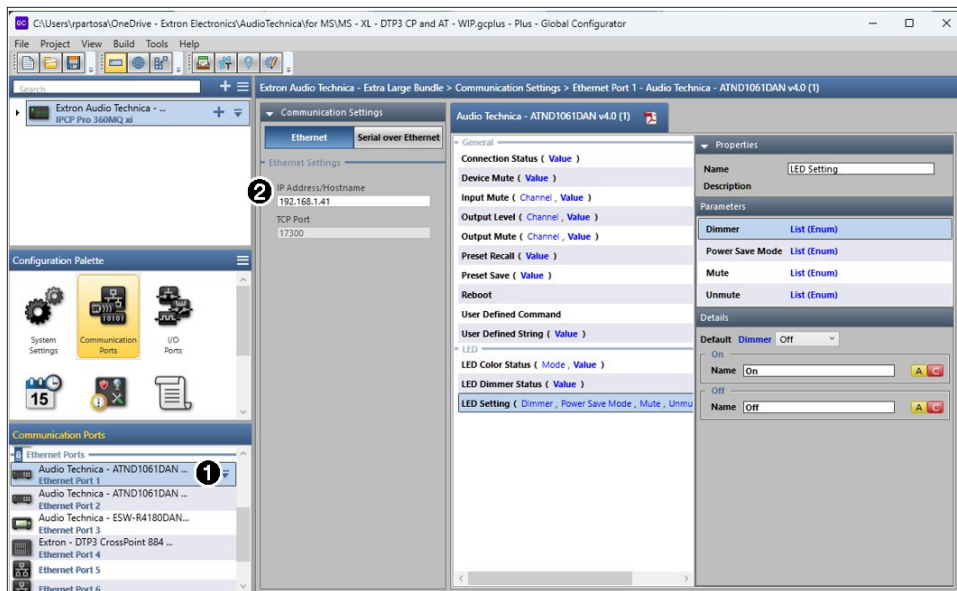
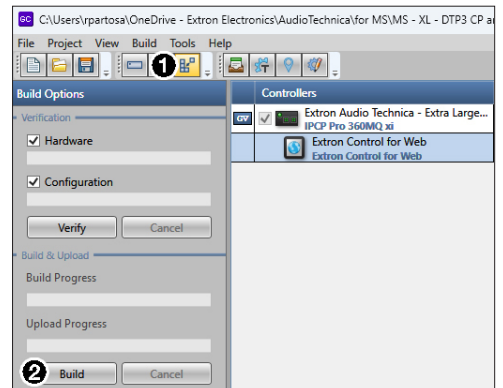
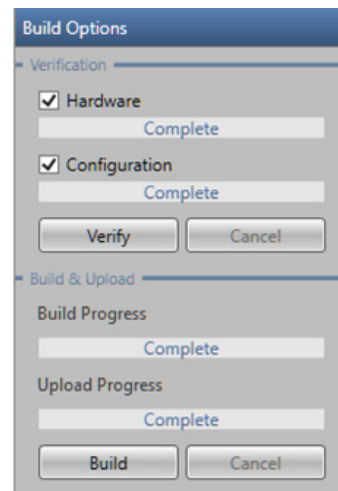

Figure 36. Configuration View — Communications Ports page for Audio Technica
Figure 37. Build Options panel
Figure 38. Build and Upload Completed
6. Choose the first Audio Technica under the Ethernet Ports list (see figure 36, ①).
7. Set IP address (②) of the Audio Technica device.
9. Open Build Manager view (see figure 37, ①, ). This option is also selectable from the View menu.
10. Under the Build & Upload section, click the **Build** button (②).
12. Once the process is complete, the Build and Upload bars both show the message Complete (see figure 38).